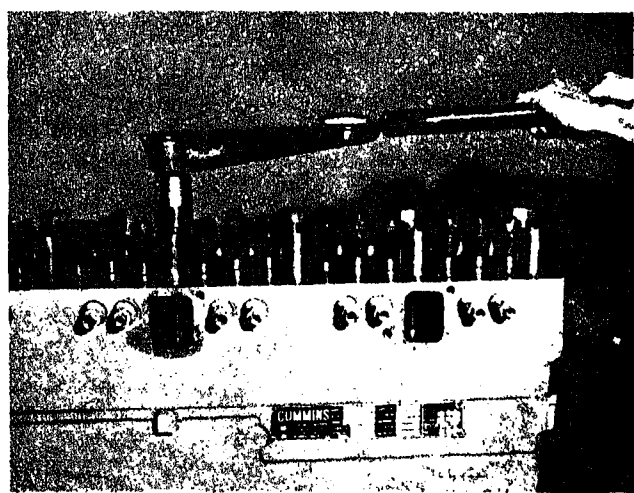

Fig. 14-1-47. Torquing cylinder head capscrews
7. Continue to tighten capscrews, in 100 ft. lbs. [13.8300 kg m] increments, to 300 ft. lbs. [41.4900 kg m] for  $\frac{3}{4}$  in. [19.0600 mm] capscrews, or to 200 ft. lbs. [27.6600 kg m] for  $\frac{1}{2}$  in. [12.7 mm] capscrews, Fig. 14-1-47.